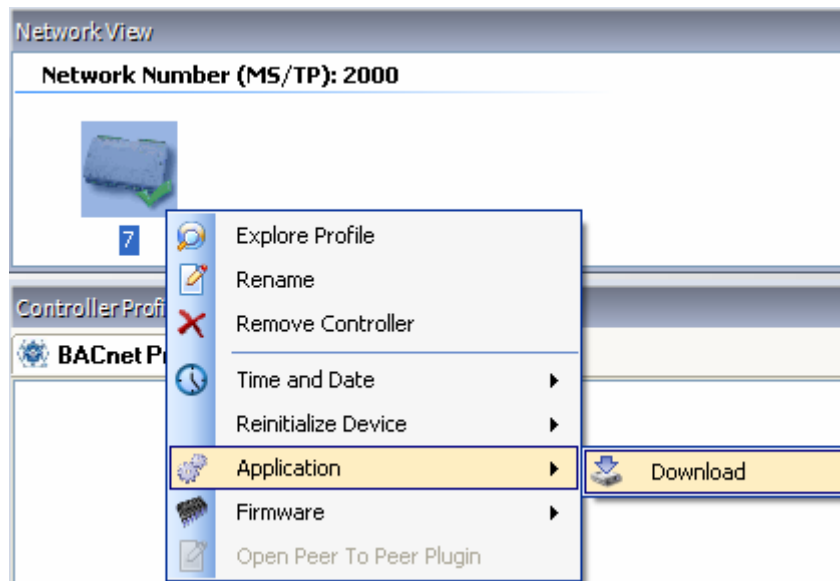

Figure 26: Selecting Application Download
2. Right-click the selected device (Figure 26) and select Download from the Application menu. The Select File to Download window appears.